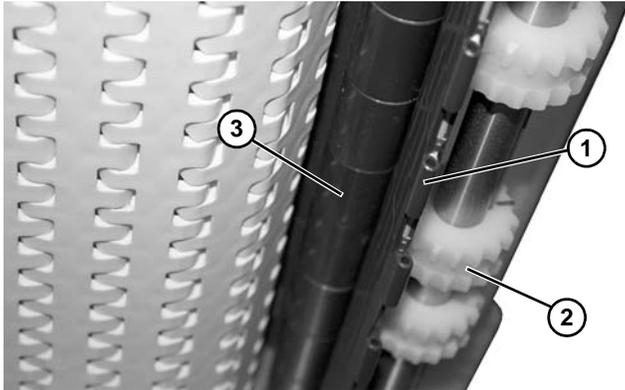

Figure 73
8. Guide belt (Figure 73, item 1) through idler assembly. Route the belt under the sprocket (Figure 73, item 2) and over wear tube (Figure 73, item 3).